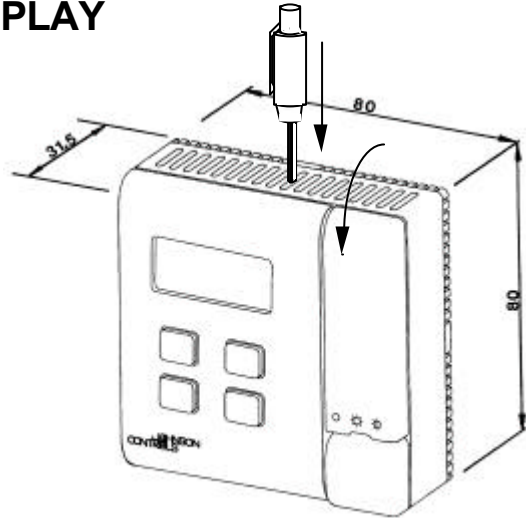

Figure 1: TM-9180-
1. Remove the base of the module from the cover by inserting a pointed tool (a special tool, Ordering Code TM-9100-8900, is available from Johnson Controls) into the small hole at the center top of the cover (See Figure 1).